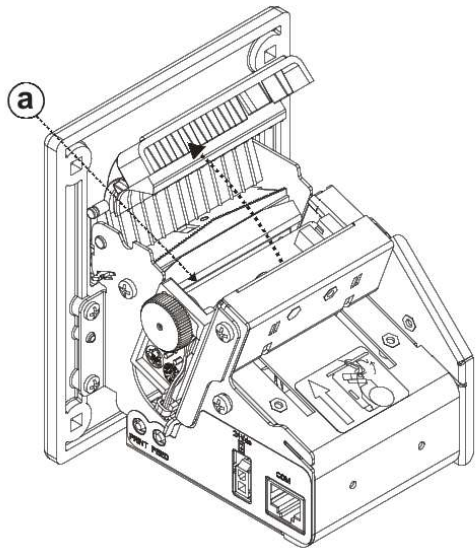

Fig. 5
- Insert the ending of the paper into the printer slot (Fig. 5) until it stops and wait until it automatically loads into the mechanism.